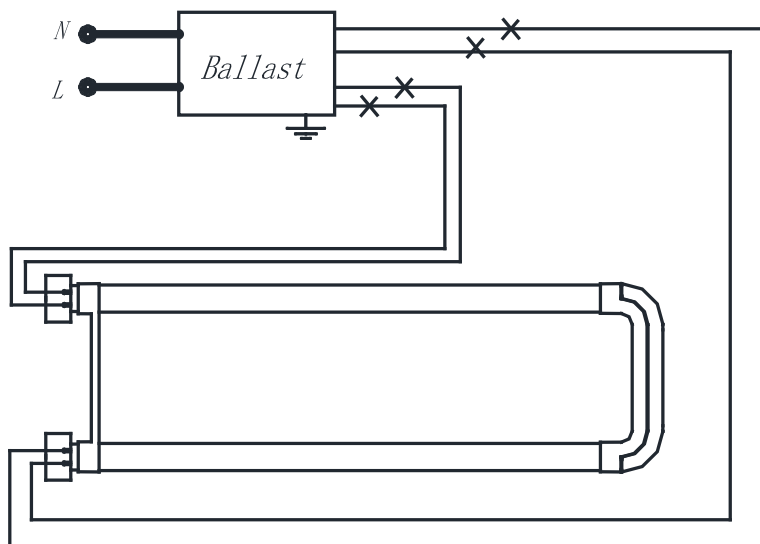

Fig.2
STEP 5: In accordance with the below drawing, cut off all the wires connected to the ballast and starter(if provided), shown as below, Fig.2